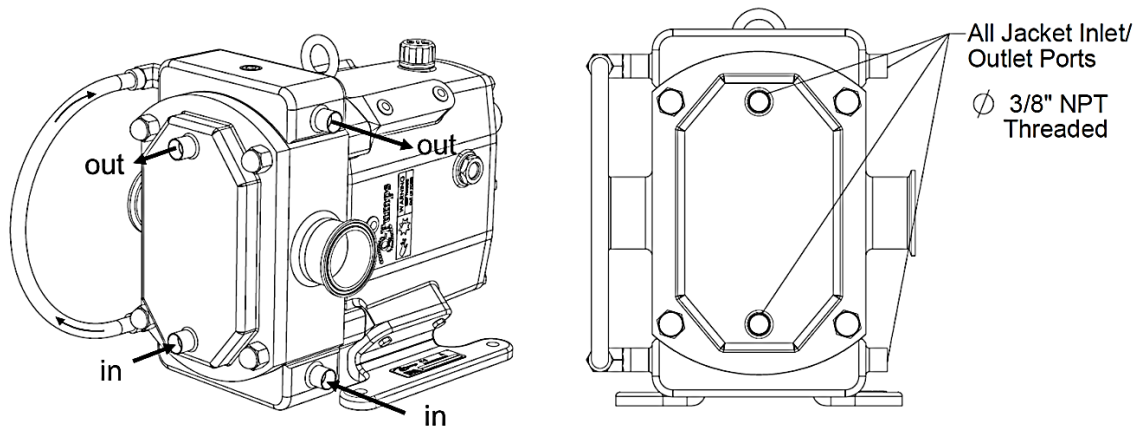

Figure 65: Jacketed Cover
3) Install the new cover o-ring and slide the cover over the studs (Figure 63, A). Visually inspect to ensure that the cover o-ring remained in place. Using an appropriate wrench, thread the cover nuts on the studs and tighten them in an opposing manner as seen in Figure 65, so that the cover is evenly tightened to the body.
The jacketed cover and casing option (Figure 65) allows for heating or cooling fluid to be circulated around the pump's fluid end to match the demands of certain products. This fluid (media) can preheat or cool the product and sustain temperature during operation and short shut downs. The jacketed cover is not a heat exchanger and is not designed to primarily control the product temperature. Please contact Q-Pumps for replacement information.